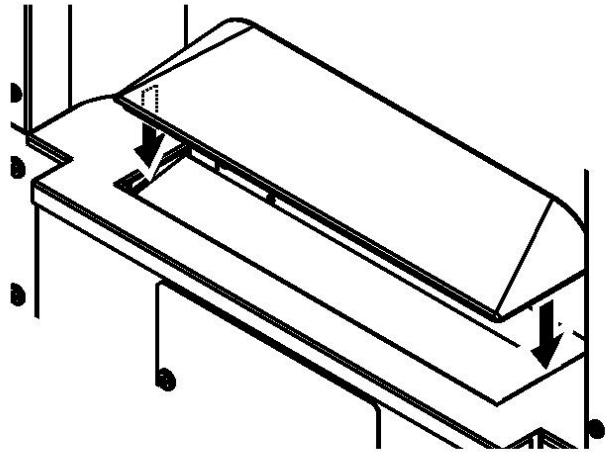

Figure 8. Fitting the fuel support.
3. Locate the fuel support as in figure 8.